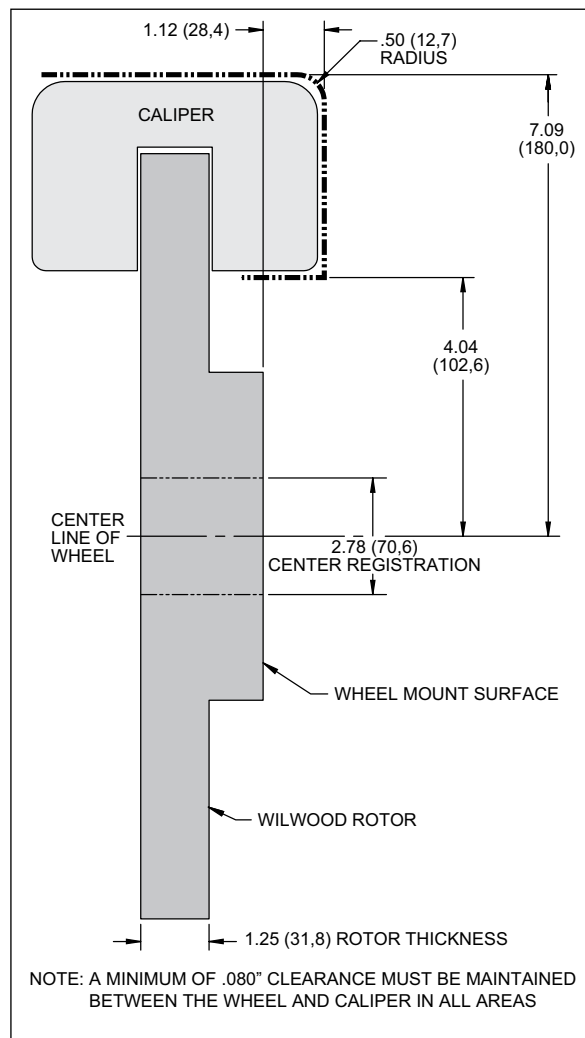

Figure 2. Wheel Clearance Diagram
- Review the wheel clearance diagram (Figure 2, page 3) to verify that there is adequate clearance with the wheels you will be using with the installation.
Verify your wheel clearance using figure 2.